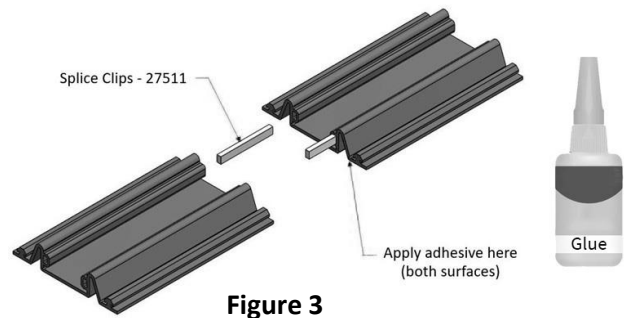

Figure 3
3. Position the elastomeric seal into position and push the seal bulbs into the base frame and wall frame top channels as shown. Make sure the bulbs are seated all the way into the channel. Do not stretch the seal lengthwise during installation. **See Figure 3**
protruding ends of the splice clips into the ends of the two seals together, applying uniform pressure for at least two minutes while maintaining contact between both sides. The splice clip is not necessary, but is recommended, especially on larger sized seals. **See Figure 3**